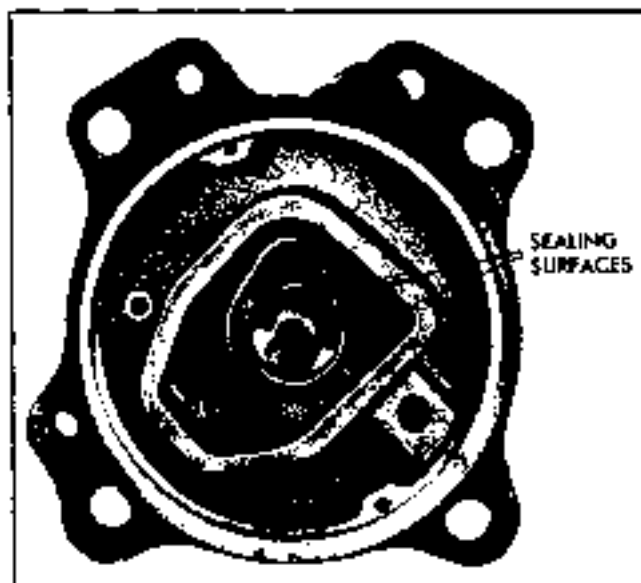

Fig. 1A-18 Sealing Surface on Head Casting Web
5. Examine surface on the rear head casting web. If any damage is observed, the head should be replaced (Fig. 1A-18).